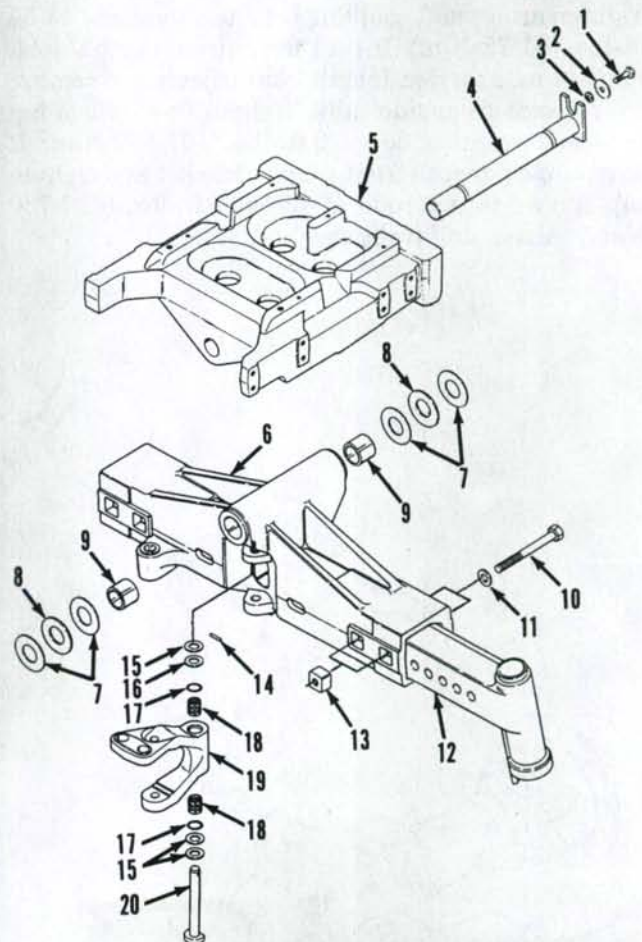

Fig. 3—Exploded view of axle main member, front support and related parts used on all two-wheel drive tractors.
4. To remove the axle main member (6—Fig. 3), first raise and support tractor under engine side rails with
5. REMOVE AND REINSTALL. To remove the front support (5—Fig. 3), first remove hood, grille and side panels. Disconnect air intake hose. Drain radiator and disconnect front wiring harness connector. Disconnect upper and lower radiator hoses, coolant filter hose and coolant recovery hose. Disconnect ether starting line from intake manifold. Remove hoses from clip on radiator, then remove air conditioning condenser and lay back on top of engine. Identify and disconnect oil cooler lines and remove oil cooler. Attach a hoist with lift straps to radiator support. Unbolt radiator support from front support and tilt radiator forward to clear fan as the assembly is removed.